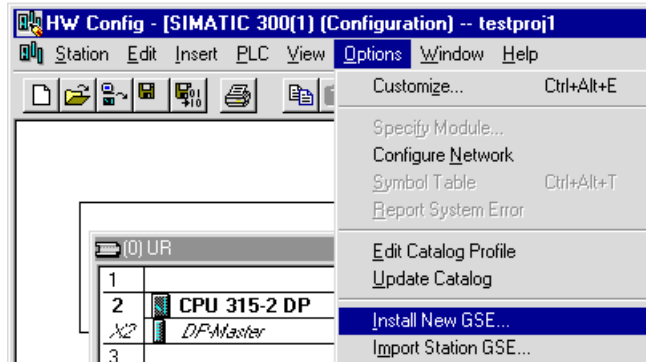

Figure 2.8 Installing a new GSD
- Select X2 “DP-Master” in the subrack (see Figure 2.8 in the “(0)UR” subrack).